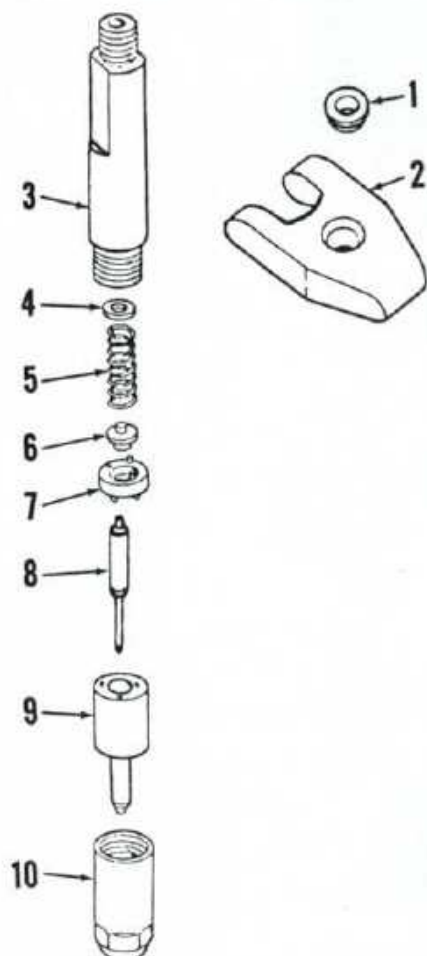

**Fig. 59—View of typical fuel injection pump and relative components.**
**62. LOW AND HIGH IDLE.** To adjust the low idle speed, start engine and bring to operating temperature. Move throttle lever to low idle position and make certain that speed control lever (13—Fig. 59) is against low speed screw (6). If not, adjust linkage rod (models without cab) or cable (models with cab) as necessary. Then, loosen locknut and adjust screw (6) until idle speed is 725-750 rpm. Tighten locknut.
**63. SHUT-OFF CONTROL.** To adjust the shut-off control, pull shut-off knob fully outward. Then, check to see that lever (14—Fig. 59) contacts stop. If not, adjust cable position as required. Push knob fully inward and check to see that lever (14) contacts the pump case. If not, loosen locknut under knob, back off knob slightly and retighten locknut. Recheck to see that shut-off lever (14) contacts stops when knob is fully in run position or fully out in stop position.